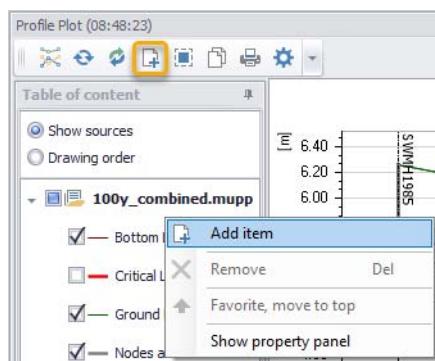

Figure 20.32 The 'Add item' tool on the Profile Plot window
- From a profile plot, use the 'Add item' button from the upper toolbar or from the local context menu (i.e. right-click) in the left panel (Figure 20.32). Alternatively, drag a result item (e.g. Link Water Level) from the list of result files in the 'Results' tree, and drop it in the table of content of the profile plot.